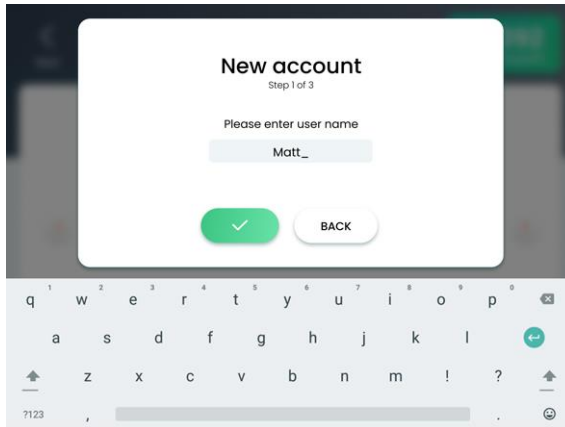

Figure 6-3. Virtual Keyboard in New Account (Step 1 of 3) Screen
3. Tap inside the **Name** box; the virtual keyboard appears, as shown in Figure 6-3.